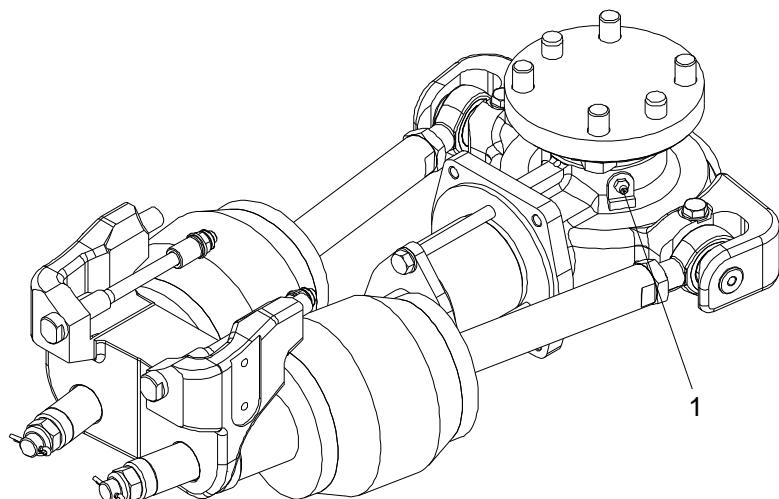

Figure 6-2: Lubricate Support and Centering
1. Grease with Lagermeister 3000+ through grease fittings (1). Use grease gun and apply until fresh grease is pressed out. Wipe off excess grease. See Figure 6-2.